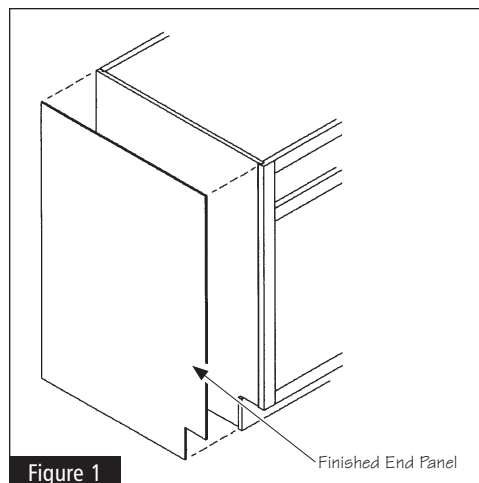

Figure 1
**1** Skip to Step #2, if you will be attaching your Decorative Matching Door to a 3/4" thick Side Panel. If your application uses a finished end panel, begin by attaching the panel to the side of the cabinet. This can be done with contact adhesive or 1/2" finishing nails. See Figure 1. (If necessary, perform any trimming of the panel before completing the attachment.)